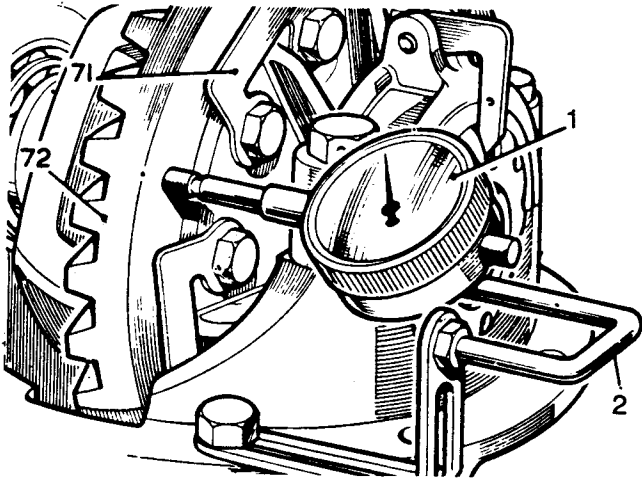

Fig J2.63
- (16) Refer to Fig J2.63. Using a test dial (1) indicator with bracket 530106 (2), measure the run-out on the rear face of the crownwheel. This must not exceed 0,10 mm. If excessive run-out is recorded, the crownwheel and differential must be removed from the bevel pinion housing and the crownwheel repositioned on the differential case. Re-assemble and recheck. If necessary, this procedure must be repeated until the run-out is correct.
- (17) When the crownwheel run-out is correct, ensure that the lockplates (2) are fully engaged over the crownwheel securing bolts.
- (18) Using a dial test indicator, check the crownwheel to bevel pinion backlash. This must be 0,20 mm to 0,25 mm. Where necessary, adjust the crownwheel backlash by alternatively slackening and tightening the serrated nuts until the backlash is correct.